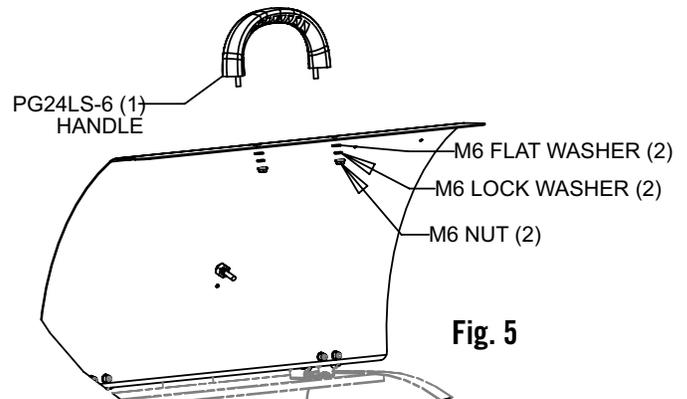

Fig. 5
1. Install the handle as shown in Fig 5.